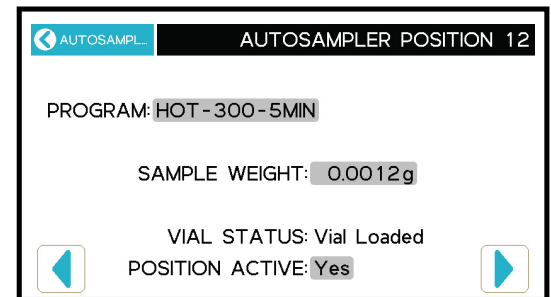

Figure 7
- Enter the **sample weight** if required by testing parameters (fig. 7).